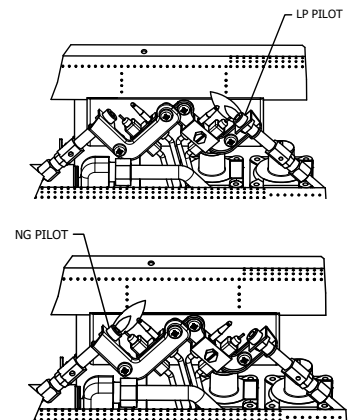
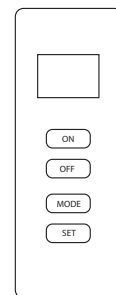

Fig. 18 - Pilot
Fig.19 - Remote
6. With control knob depressed, push down on the ignitor button until the pilot lights. The pilot is located behind the fireplace screen, centered near the rear of the burner (See Fig. 18).
7. Keep control knob depressed for (30) seconds after pilot lights. Release control knob.
- If pilot goes out repeat steps 3 through 7. Wait (1) minute before attempting to light pilot again. If after several tries the pilot still goes out, turn the gas control knob clockwise  to the “OFF” position and call a qualified service technician.
9. To use the included thermostatic remote control, set receiver switch to the “REMOTE” position (See Fig. 19). Press the ON button to turn on the remote to ignite the main burner. Refer to the remote control instruction manual on page 29 for “MODE” and “SET” functions.